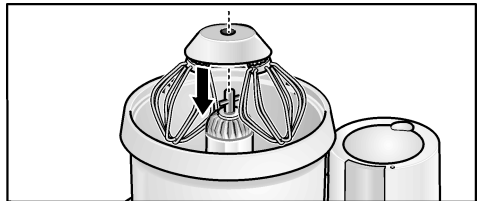

Figure 6
4. Place and engage the twin beating whisk assembly on the driveshaft of the mixing bowl as shown in figure 6.